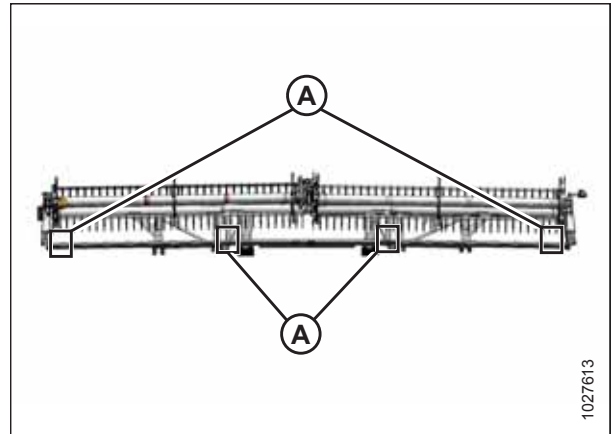

Figure 7.33: FlexDraper® Measurement Locations – Double Reel
- Figure 7.33, page 181 – double reel